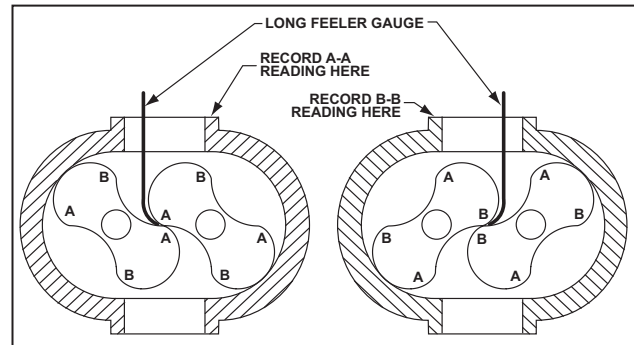

Figure 10 - Checking Rotor Interlobe Clearance
18. Using feeler gauges take interlobe readings and record on each side of housing as indicated in Figure 10. By removing or adding shim behind the helical gear, it rotates as it is moved in or out and the driven rotor turns with it, thus changing the clearance between rotor lobes.
EXAMPLE: Referring to Figure 10 to the right, check the clearance a AA (right hand reading) and BB (left hand reading). If AA reading is .009" (.23 mm) and BB reading .003" (.08 mm) by removing .006" (.15 mm) shims, the readings will change one-half the amount removed or .003" (.08 mm) AA should then read .006" (.15 mm) and BB should read .006" (.15 mm). The final reading should be within .002" (.05 mm) of each other.